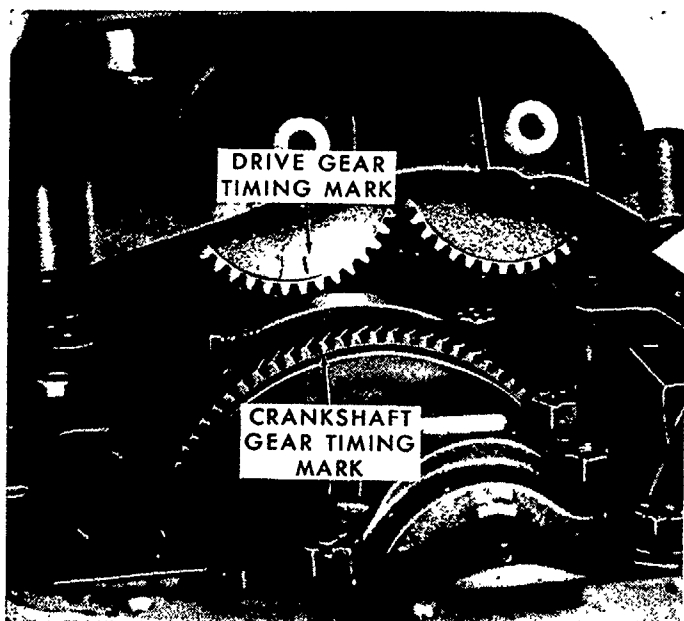

Figure 64
1. Make sure that the mounting surfaces on the cylinder block and balancer are clean and the aligning dowels in the cylinder block are not damaged. Rotate the crankshaft until the timing mark on the crankshaft gear is at the bottom of the block, Nos. 2 & 3 pistons are at T.D.C. (top dead centre). Rotate the balancer gears to align the balance mark on the balancer drive gear with the timing mark on the crankshaft gear, as shown in Figure 64.